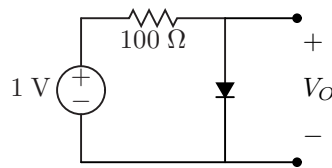

Figure 3: Diode circuit to build
3. Using your empirical plots and load-line analysis, determine the value of V_O in the circuit shown in Figure 3. Verify your expected operating point by building the circuit and measuring the appropriate voltage with the DMM.